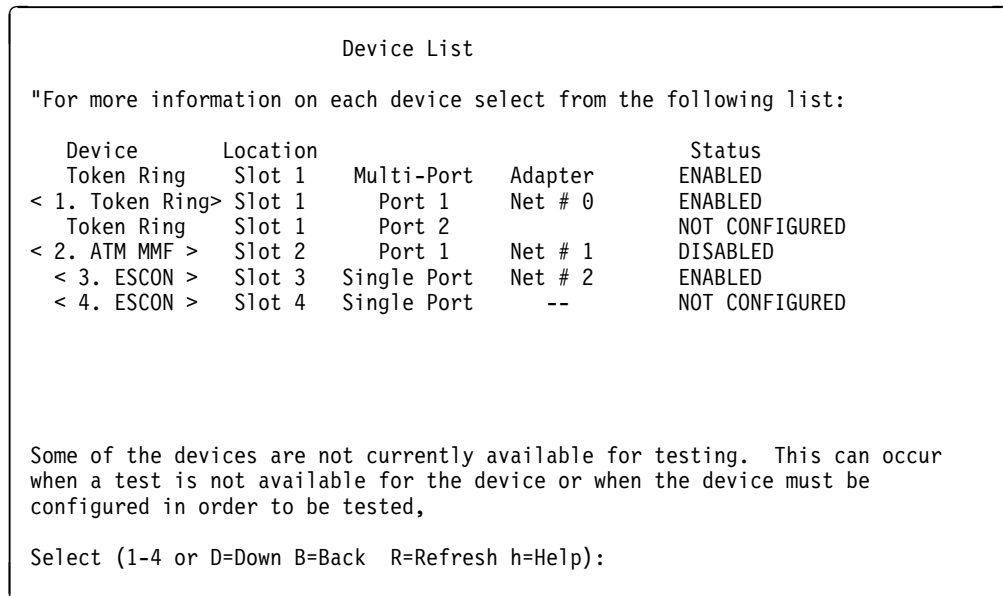

Figure 9-2. Sample of Device List Panel Showing Interfaces
3. Select **<1. The Device List Page>** to view a list of installed devices. (Status and test options for each device are from the Device List page.) The Device Status and Control panel (similar to the one in Figure 9-2 on page 9-3) appears.